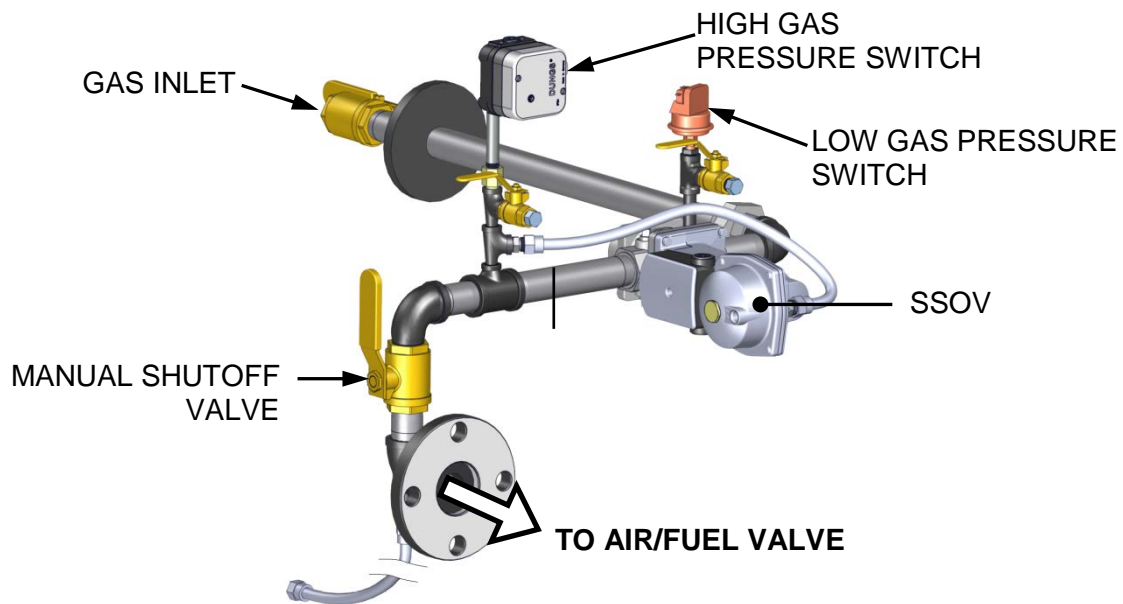

Figure 5-3. Manual Gas Shut-Off Valve Location (INN600-1060 Gas Train Shown)
3. Close the manual gas shutoff valve located between the Safety Shut-Off Valve (SSOV) and the Air/Fuel Valve (see Figure 5-3).
8. Once flame is proven, close the 1" manual gas shut-off valve located between the SSOV (Figure 5-3) and the Air/Fuel Valve.